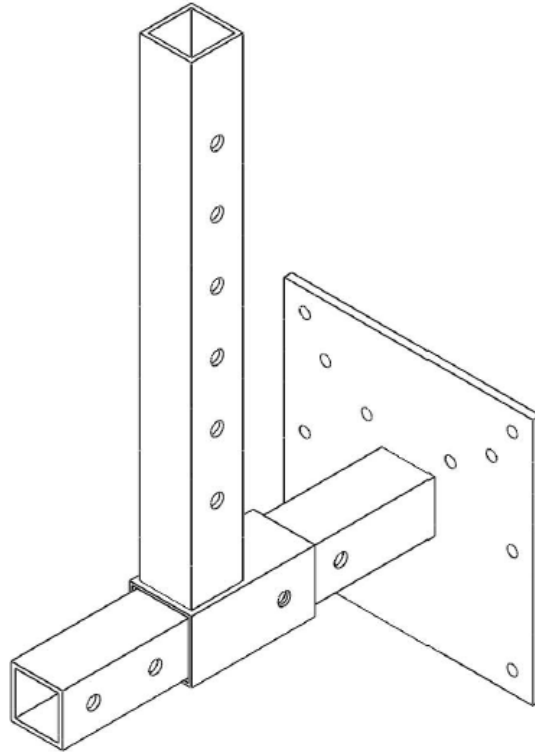

Fig 5
Slide the Height Adjuster Bar (Fig 1.2) onto the bar located on the Mounting Plate (Fig 1.1) and lock it into the desired position using one (1) of the supplied Quick Pins. (Fig 5)